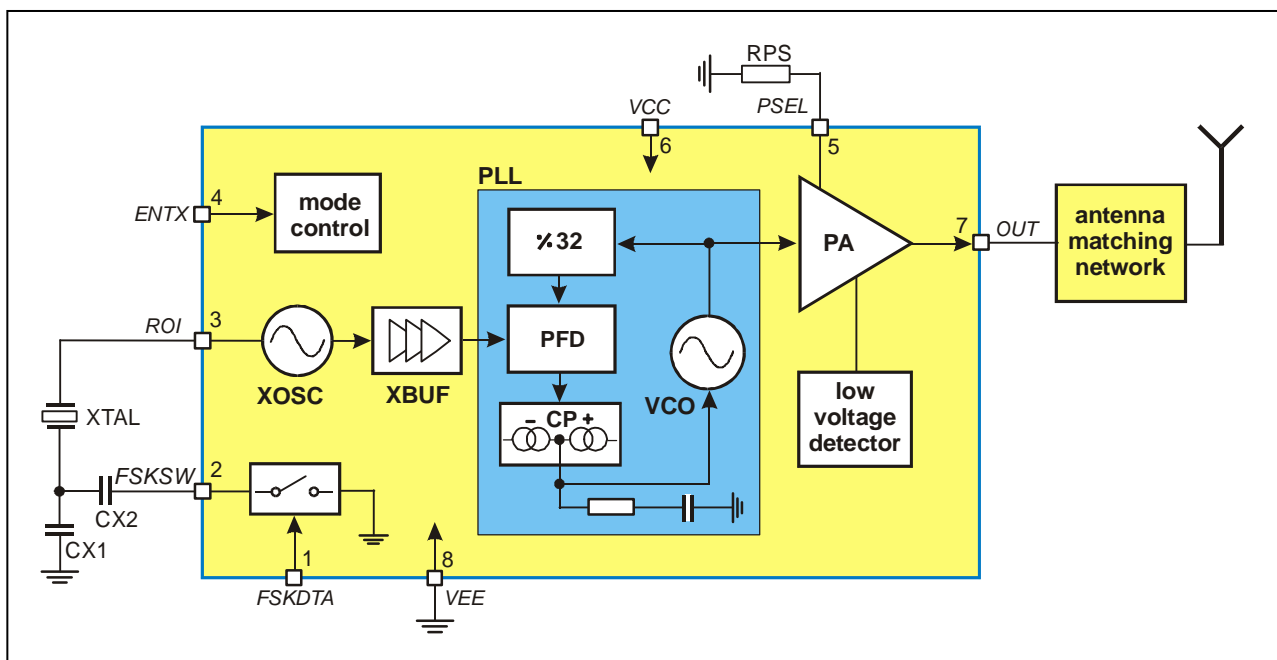

Fig. 1: Block diagram with external components
As depicted in Fig.1, the TH72011 transmitter consists of a fully integrated voltage-controlled oscillator (VCO), a divide-by-32 divider (div32), a phase-frequency detector (PFD) and a charge pump (CP). An internal loop filter determines the dynamic behavior of the PLL and suppresses reference spurious signals. A Colpitts crystal oscillator (XOSC) is used as the reference oscillator of a phase-locked loop (PLL) synthesizer. The VCO's output signal feeds the power amplifier (PA). The RF signal power  $P_{out}$  can be adjusted in four steps from  $P_{out} = -12$  dBm to +10 dBm, either by changing the value of resistor RPS or by varying the voltage  $V_{PS}$  at pin PSEL. The open-collector output (OUT) can be used either to directly drive a loop antenna or to be matched to a 50Ohm load. Bandgap biasing ensures stable operation of the IC at a power supply range of 1.95 V to 5.5 V.